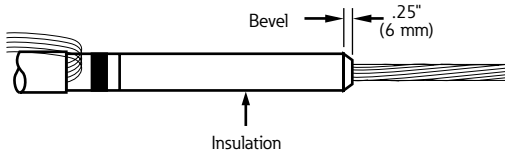

Figure 18. Line illustration of insulation bevel.
- Remove sharp edge of insulation by beveling at a 45° angle for approximately .25" (6 mm). Refer to Figure 18.